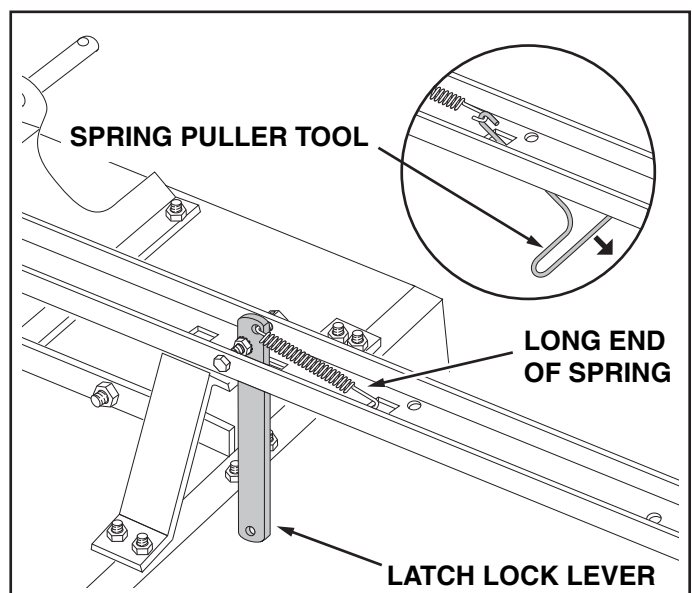

FIGURE 11
19. Hook the short end of the spring into the hole in the latch lock lever. Use the spring puller tool to hook the long end of the spring into the square hole in the tongue. The spring puller tool can be stored when finished. See figure 11.